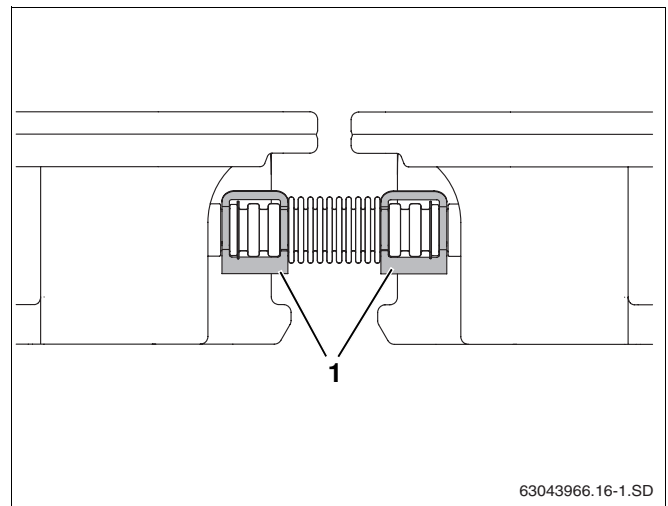

Fig. 26 Corrugated pipe connector secured with brackets
- Secure each end cap with one bracket and each corrugated pipe connector with two brackets (Fig. 26, **Item 1**).